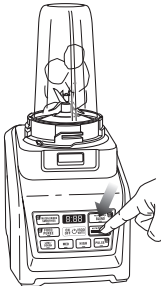

Fig. 4
- 7 Press the power button on, and select the speed or Auto-iQ® program that suits your needs. **(Fig. 4)** The Auto-iQ program will stop the appliance automatically at the end of the program.